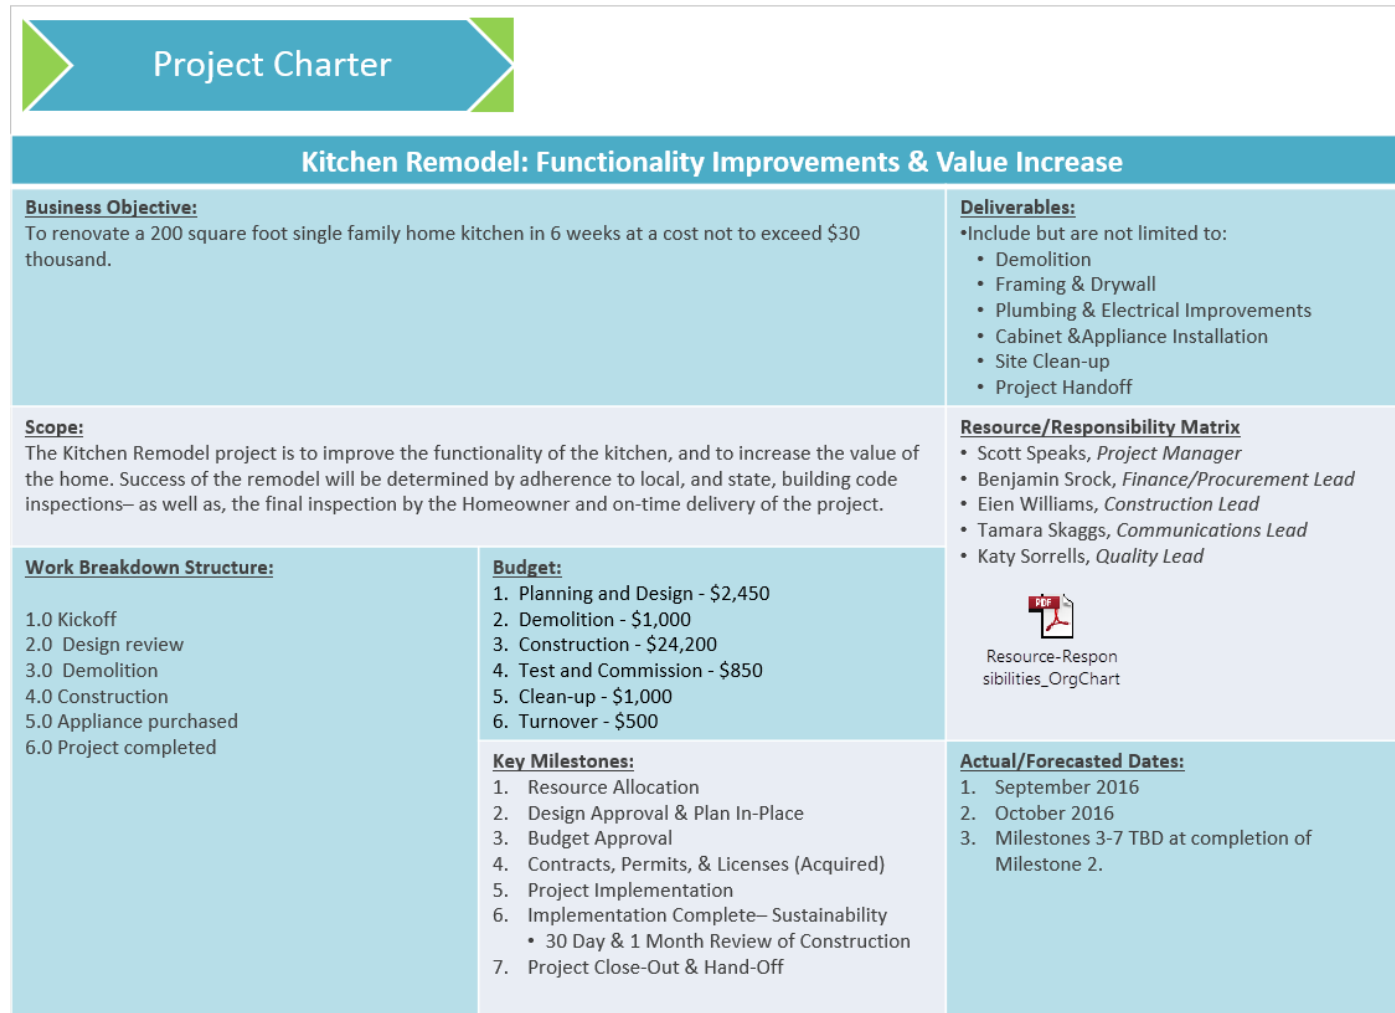

Figure 1: Project Charter: Kitchen Remodel
- The approved Kitchen Remodel Project Charter can be reviewed in Figure 1 of this document.